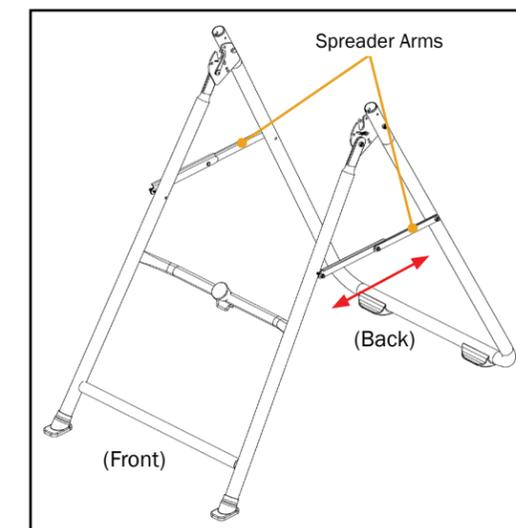

Figure 2
- Once the Stability Feet are in place, turn the A-frame over so the Stability Feet are on the ground. Open the A-frame and make sure the spreader arms are locked (Figure 2).